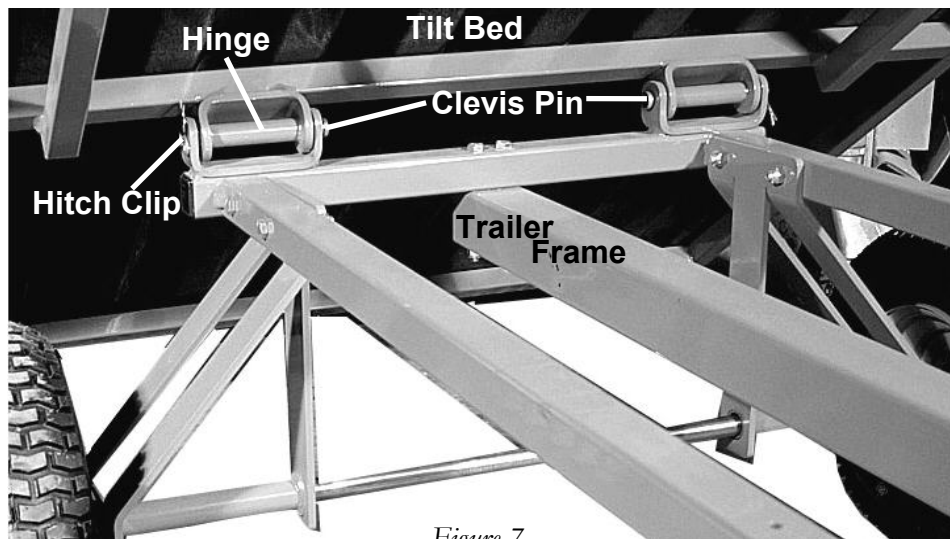

Figure 7
2. Align the left hinge on the Tilt Bed with the left hinge on the trailer frame (*Figure 7*).
3. Insert a Clevis Pin through the mated hinges and secure with a Hitch Clip (*Figure 7*).